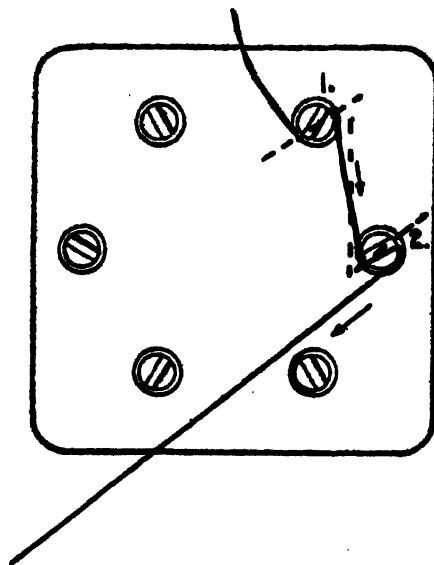

FIGURE 16
- * (1) Ensure that the wire is pulling the screws CLOCKWISE.
- * (2) Grasp the wire only at the end with the duckbills.
- * (3) Ensure that lockwire is kept TIGHT between screws.
* Keep a TIGHT "Z" pattern. See figure 16.